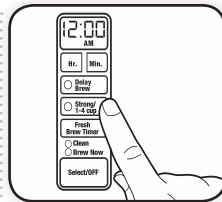

Figure 24
- 3 Press the Strong/1-4 Cup button now to activate this feature at the preset later time. (Figure 24)